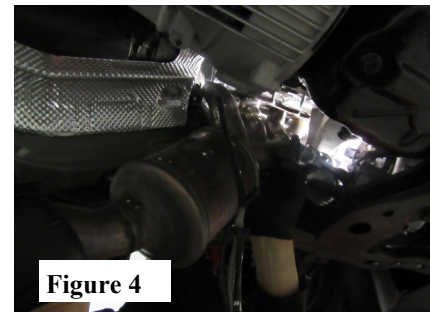

Figure 4
4. Loosen and remove the eight nuts (13mm head) securing the drivers side manifold to the engine. Disconnect two oxygen sensor harness connections and remove the drivers side manifold. (See Fig. 4)